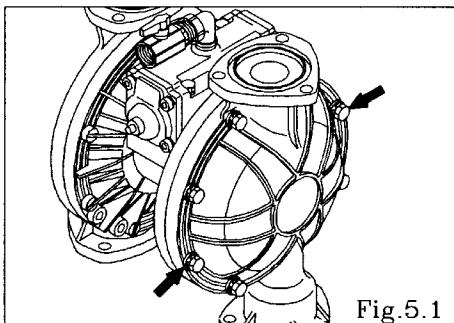

Fig.5.1
See [9. Exploded View] on after p. 13. (Fig. 5.1 shows the NDP-50 BS_.)
- Remove the 16 (24 on the NDP-80) retainer bolts from the out chamber, and remove the out chamber. [Fig.5.1]